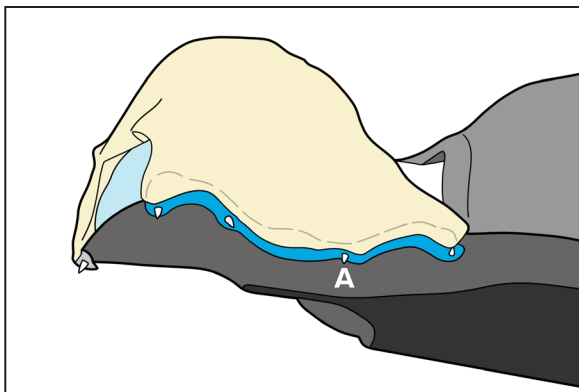
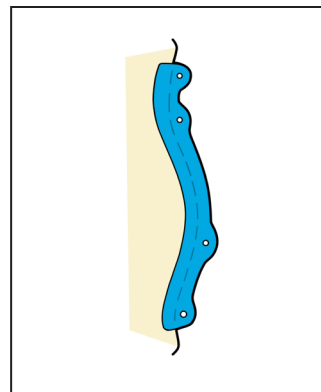
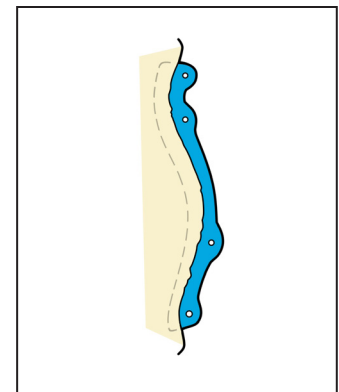

Fig. 9
Fig. 10: Frame Side
Fig. 11: Welded Side
**! NOTE !** The BoS mask is designed to be molded with the welded side (see Figure 11) of the mask facing out relative to the patient when attaching to the pins on the BoS Device. Place frame side (see Figure 10) of the mask down in the waterbath or oven and toward the patient during mask formation. It is easiest to attach the frame to the BoS by first attaching the pin marked “A” in Figure 9.